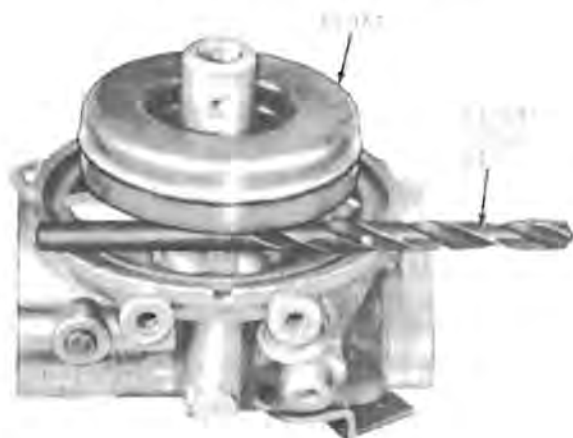

Fig. 6—Adjusting Float
Assemble float (18), Figure 2, to carburetor housing with float pin (19). Invert carburetor, Figure 6. With float resting lightly on float valve, the distance between float and machined surface of carburetor body should be $13/64$ inch. To increase or decrease the distance, bend lip on float. Dimension should be made on free end of float (opposite valve seat), Figure 6.